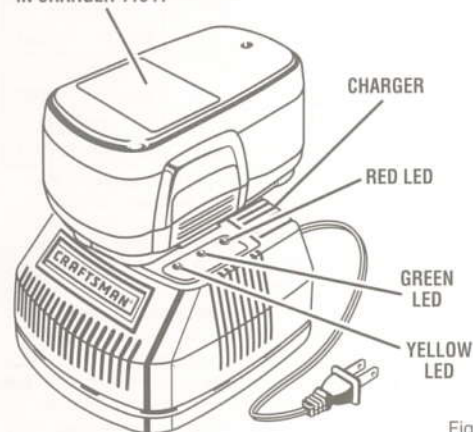

Fig. 1
- Place the battery pack in the charger aligning raised rib on the battery pack with the groove in the charger. See *Figure 1*.